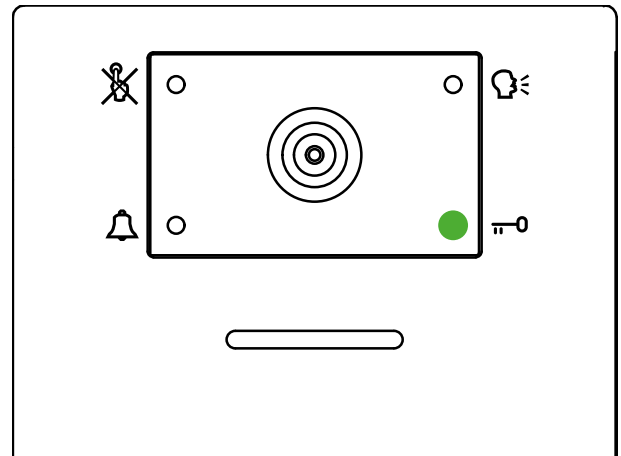

Fig. 10 Door opening
- If the resident open the door, the  green illuminates (Fig. 10) for the programmed door opening time.